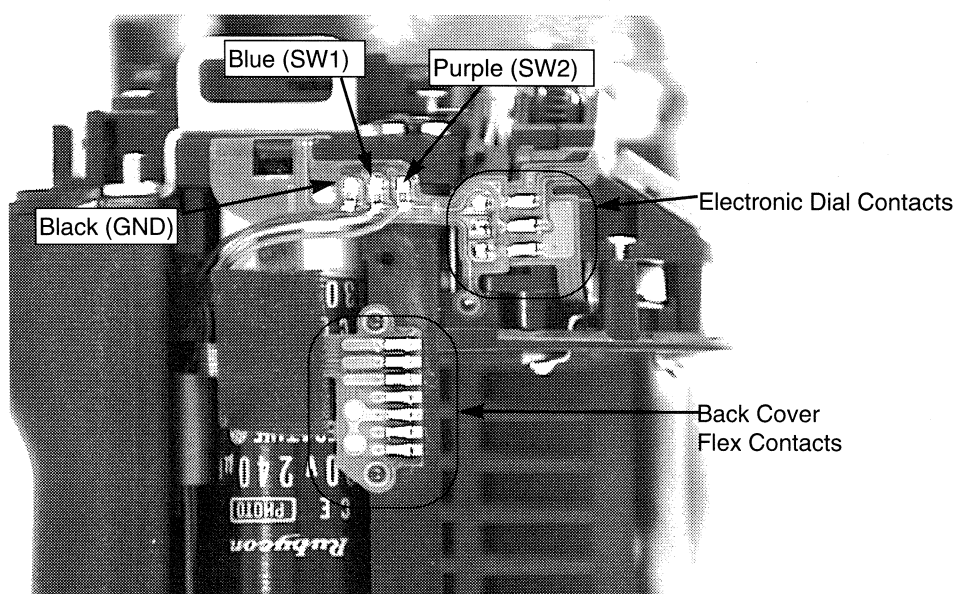

Fig. 3-15 LCD Flex
1. Remove the AF mode dial flex (3) (one screw), and unsolder the main flex comb connector.
3. Unsolder the back cover flex (Fig. 3-15).
5. Unsolder three leads from the remote terminal (Fig. 3-15).
6. Unsolder the release flex and electronic control dial (Fig. 3-15).